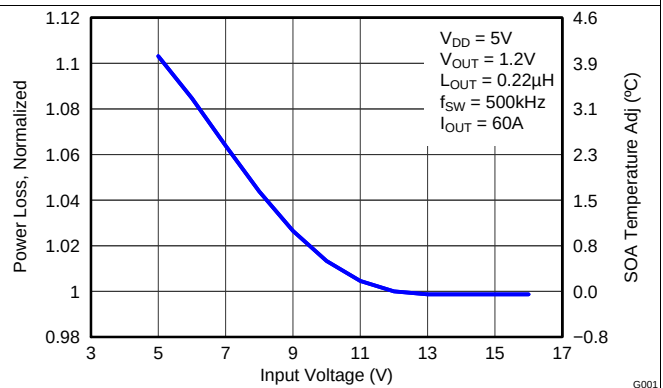

Figure 6. Normalized Power Loss vs Input Voltage
- Normalized Power Loss for input voltage  $\approx 1.06$  (Figure 6)
- SOA adjustment for input voltage  $\approx 2.4^{\circ}\text{C}$  (Figure 6)